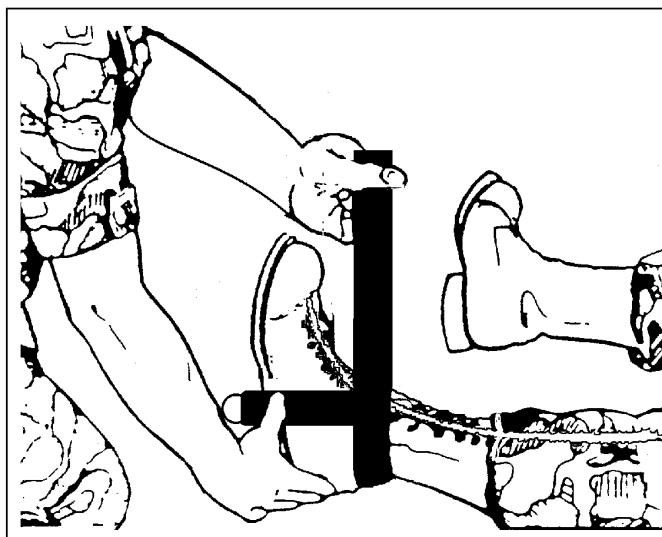

Figure 3-29
- d. Crisscross the side straps high on the instep. (See Figure 3-29.)